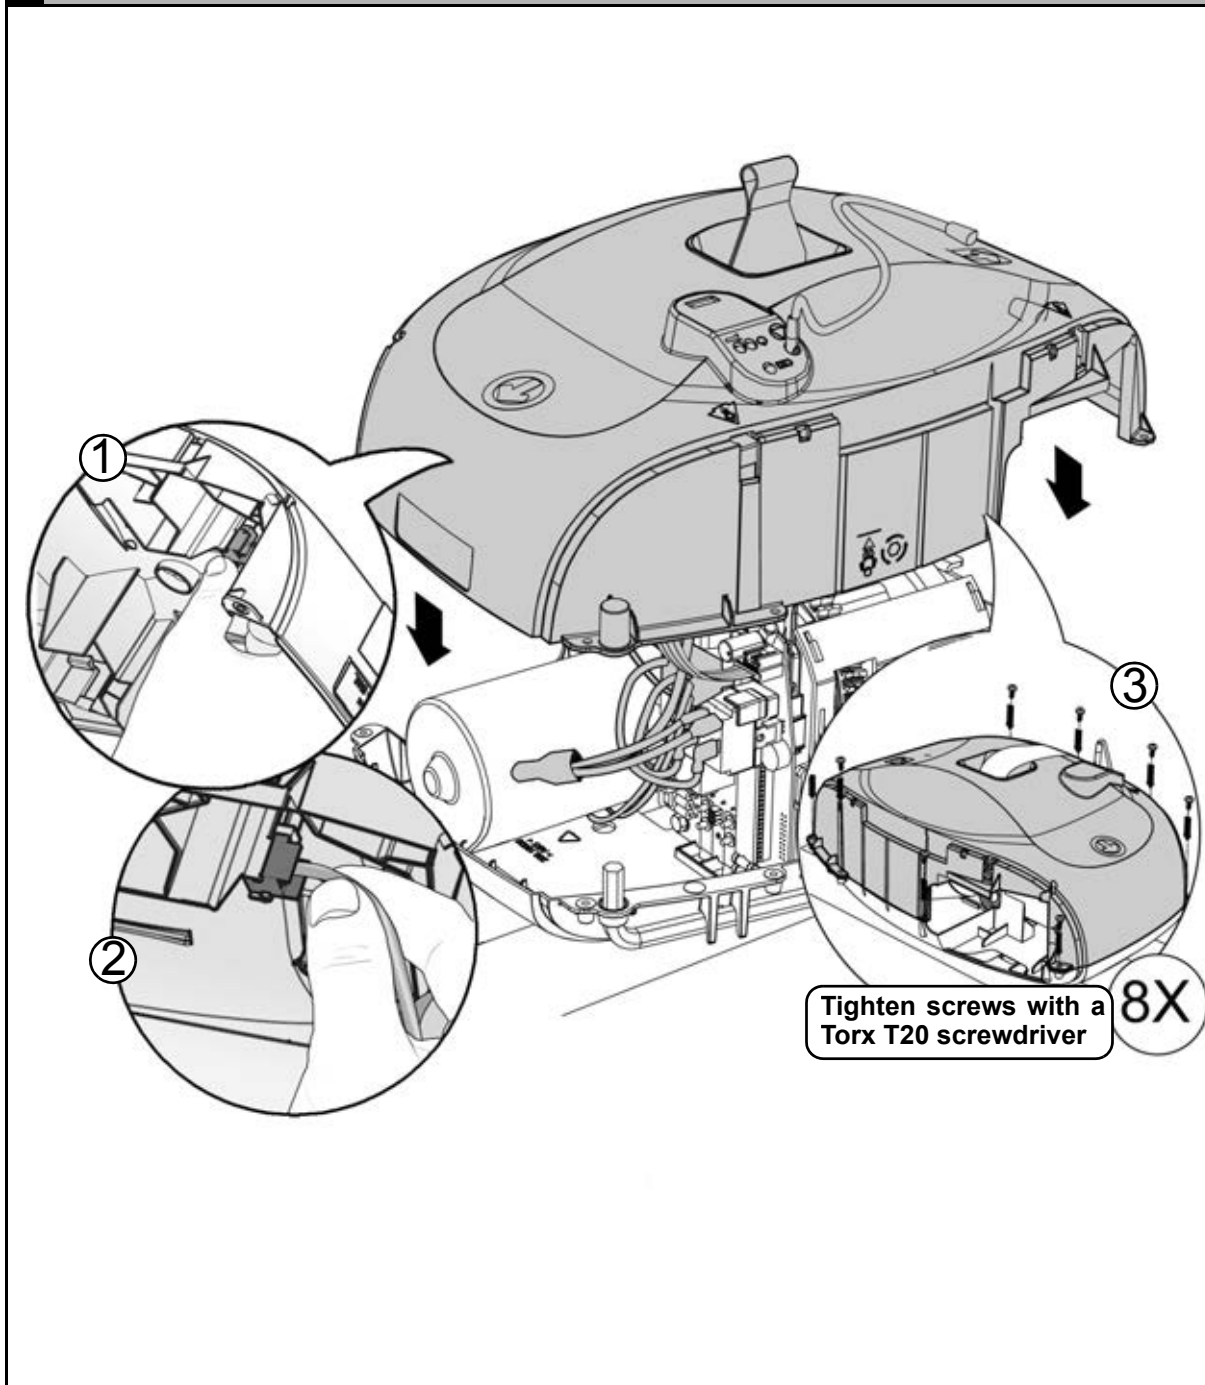
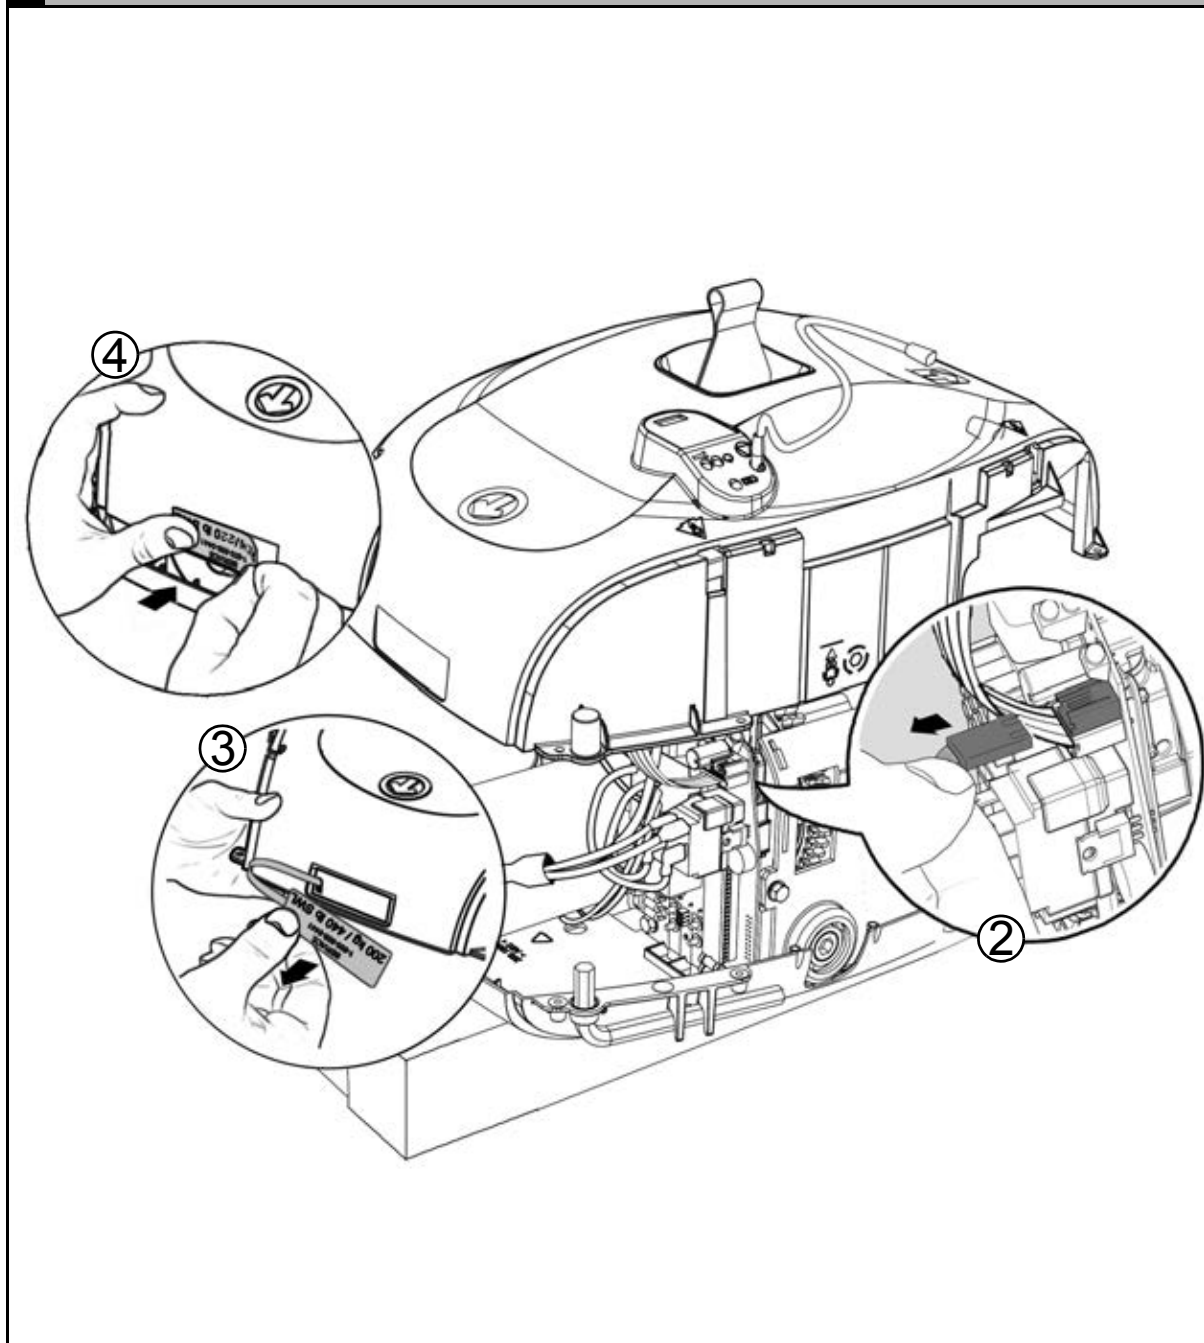

Fig. 38
Fig. 39
- ② Disconnect the **200 kg (440lb)** SWL key (see Fig. 39).
- ③ Remove the key label off the plastic housing. Cut the key to ensure that it will not be re-used.
- ④ Apply the **100 kg (220 lb)** SWL label (001.19510) on the top plastic housing.
- ⑤ Re-assemble the unit, refer to steps in Fig. 38, Fig. 14, Fig. 15 and Fig. 16.